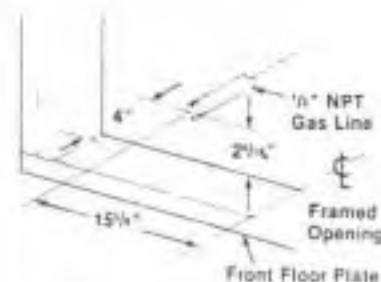

Figure 7
Step 3: Route a 1/2" NPT gas line 2 1/4" above the floor plate and 15 1/4" from the center line of the framed opening as shown in Figure 7. The end of the gas line must be 4" behind the face of the rough framing (Figure 7.)